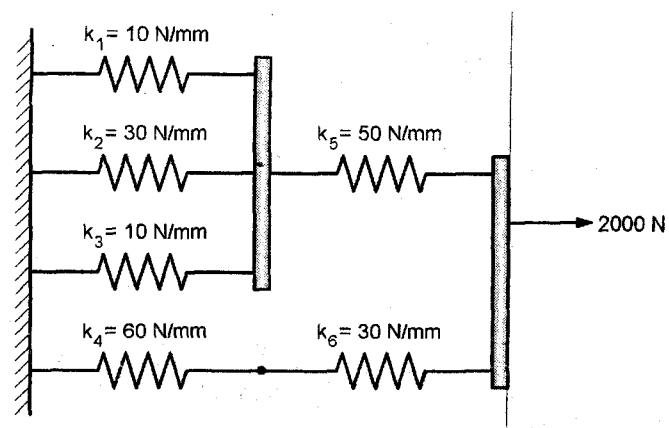

Fig.2
- (ii) Fig.2 shows a cluster of six springs. One end of the assembly is fixed and a force of 2000N is applied at the other end. Using finite element method, determine :